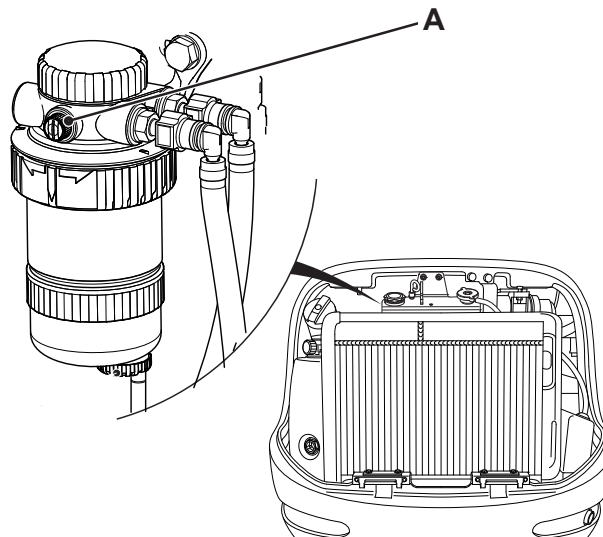

Fig 20.
- 3 Retighten bleed screw **A** when all air has been removed. ⇒ Fig 20. \(□ 3-40\)